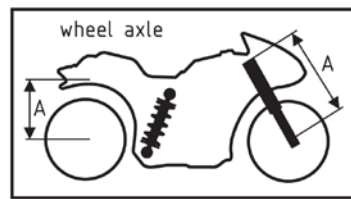

Fig.2
- Now only hold the motorcycle (without rider) in upright position so the motorcycle weight puts load on the suspension springs and repeat the measuring procedure. (Fig.2)